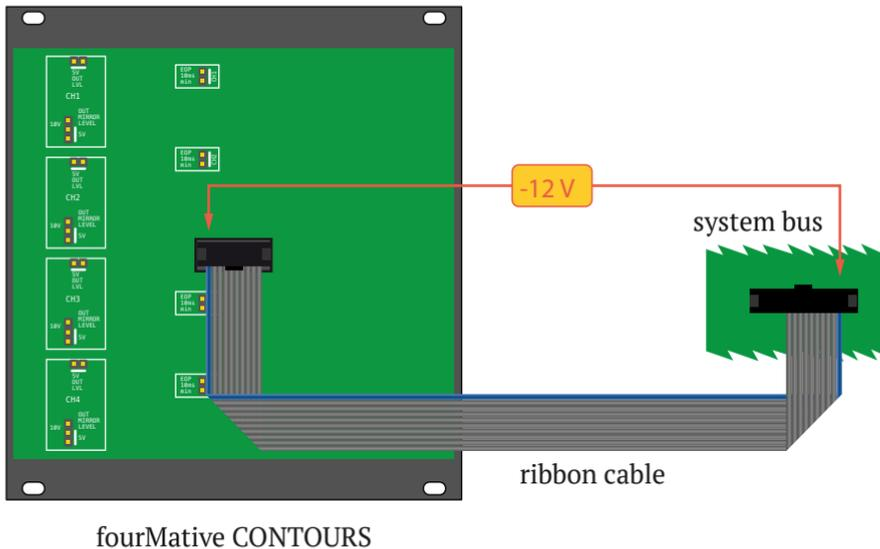

Figure 1: Connecting fourMative CONTOURS to the system-bus
2. Connect the supplied ribbon-cable with its 10-pole connector to the corresponding multi-pin connector ③ on fourMative CONTOURS' rear (see "Figure 1: Connecting fourMative CONTOURS to the system-bus" on page 3).
3. Connect the ribbon-cable's 16-pole connector to an empty plug-socket of your frame's system bus. Make sure the color-coded side of the cable points towards -12 volts! (See "Figure 1: Connecting fourMative CONTOURS to the system-bus" on page 3).